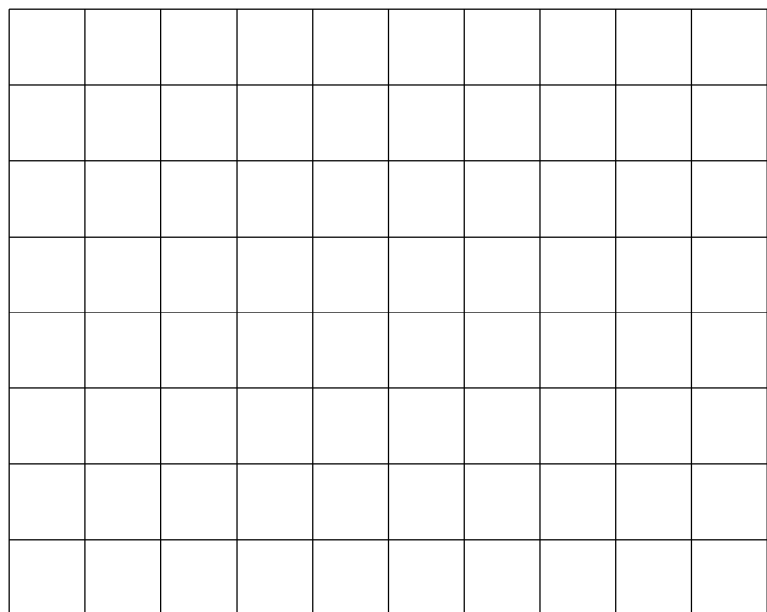

Fig. 15.2.3: Phase shift, U_{tot} to U_R
- Adjust the oscilloscope so that to ease measurements, the phase shift between the voltages is clearly seen. Draw one period of the voltage waveform in the chart below (Fig. 15.2.3).